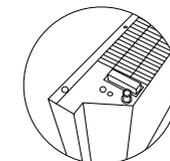

Figure. 6
Using the chassis (supplied separately), having previously studied the mounting scheme (Fig. 6), install the device on the floor:
1. Carefully turn the convector upside down (Fig. 6).